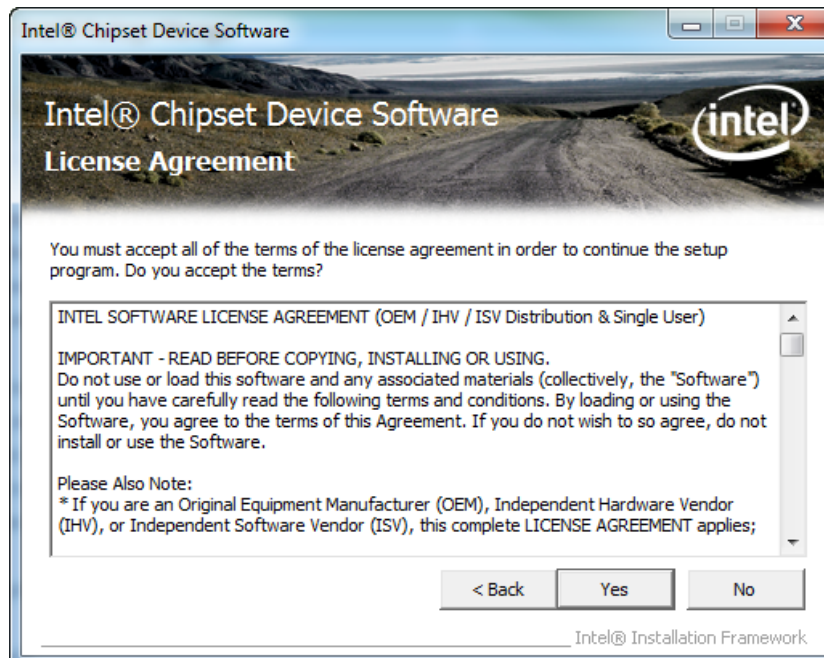

Figure 7-4: Chipset Driver License Agreement
Step 7: The license agreement in **Figure 7-4** appears.